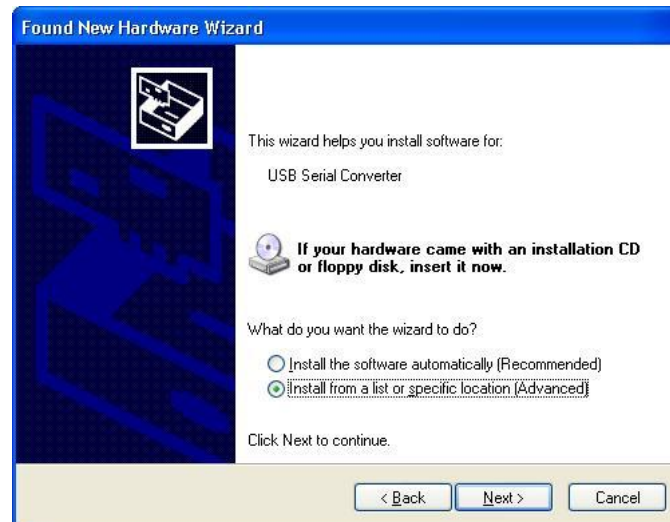

Figure 7.2: Select installation option
2. With the manual installation, select the option to "Install from a list or specific location (Advanced)" as shown in Figure 7.2 below and then click "Next".